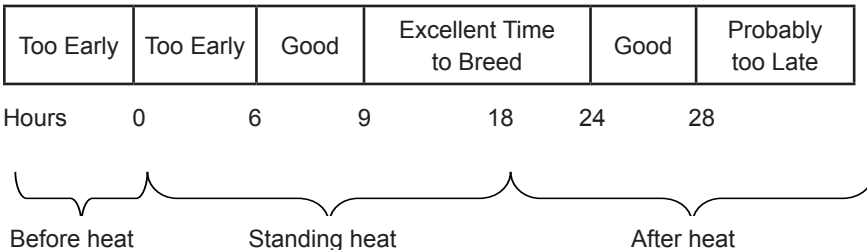

Figure 21. Timing of artificial insemination for maximum conception
Figure 21 offers general guidelines for timing of artificial insemination (AI) based on observed standing heat (estrus). Actual times will vary depending on the length of standing heat, but the goal is to inseminate near the end of a heat period.